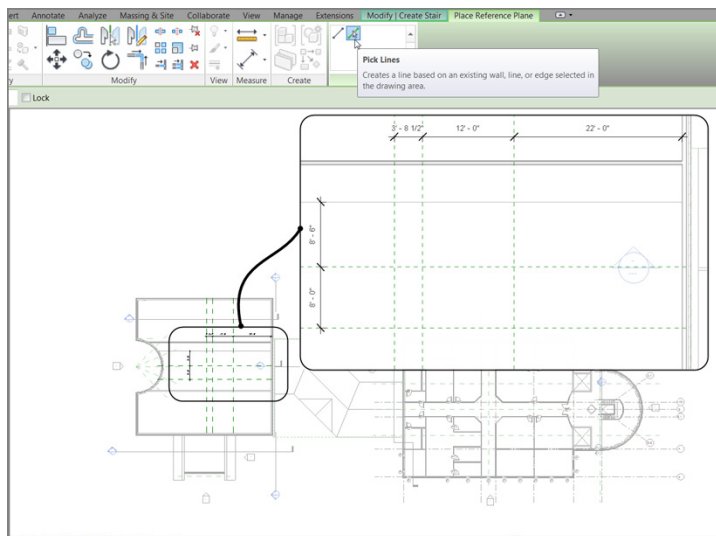

FIGURE 10.65: Using dimensions to lay out the centerlines of the stairs
2. Click the Pick Lines button, and then offset a grid, as shown in Figure 10.65.